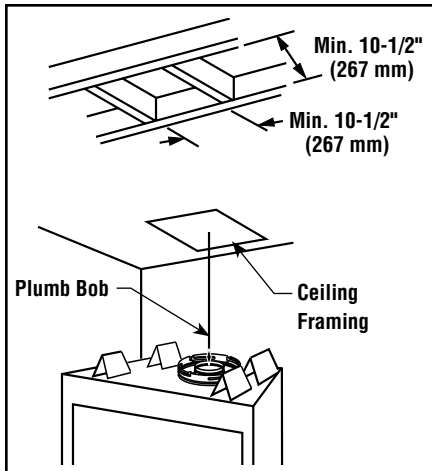

Figure 17: Ceiling Opening Framing
- Meters (M) = Inches x .0254
A. Frame ceiling opening. Use a plumb line from the ceiling above the appliance to locate center of the vertical run. Cut and/or frame an opening, 10-1/2" x 10-1/2" (267 mm x 267 mm) inside dimensions, about this center mark (*Figure 17*).
If the vertical route is to penetrate a ceiling, use plumb line to locate the center above the appliance. Cut and/or frame an opening, 10-1/2" x 10-1/2" (267 mm x 267 mm) inside dimensions, about this center (refer to **Figure 17 on Page 18**).